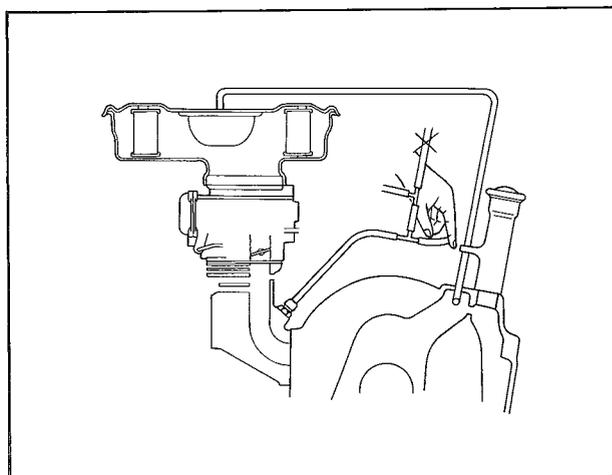

Fig. 1B-44 Checking ventilation valve
3. Make sure that the engine speed drops when the evaporative hose is squeezed by hand as shown in Fig. 1B-44 and then the ventilation hose removed in the above procedure 2 is closed with the fingers. If the engine stalls on that occasion, replace the ventilation valve.